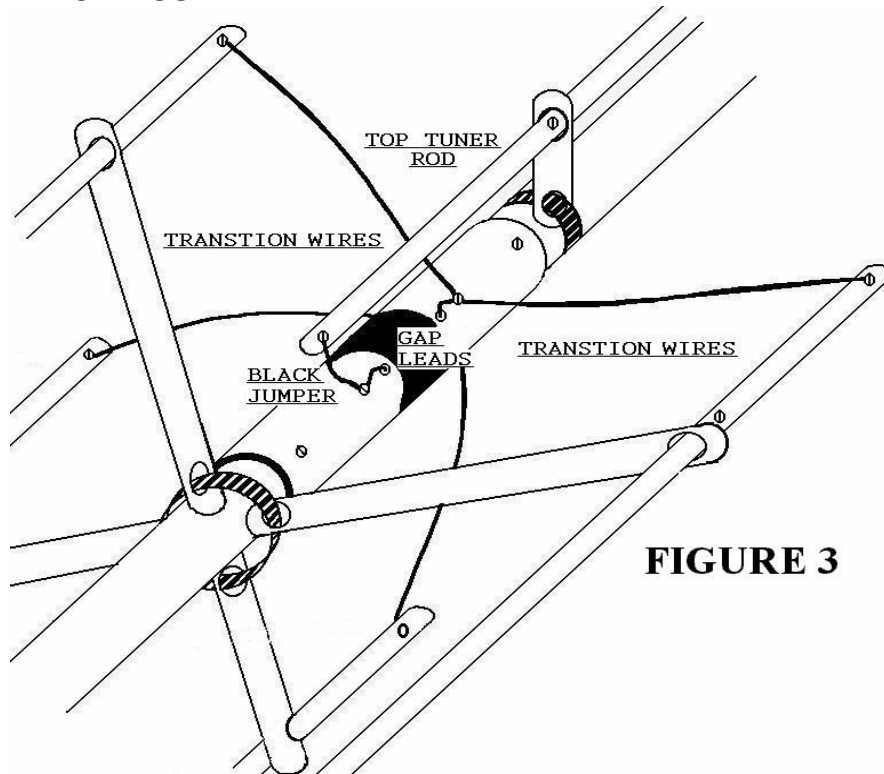

FIGURE 3
I) Align the holes on the insulator with the holes in the Mid Section. Place a screw and washer through the remaining ring terminal on the short yellow GAP lead coming out from the center insulator. Insert this screw in the hole closest to where the lead comes out of the center insulator. See figure 3. Insert the remaining 3 screws and tighten. Leave the standoffs as is, for the moment.
- C) Slide the tuner rod toward the GAP. Locate a black jumper. Remove the screw holding the lower GAP lead, see fig. 3. Place the black jumper under the screw with the GAP lead, reinsert and tighten.